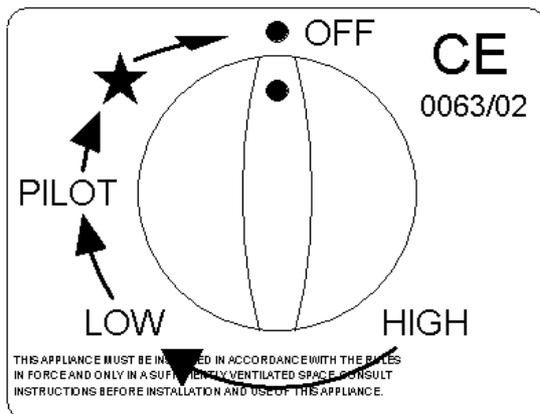

Fig 4f
Step 4. To extinguish the pilot, turn the control knob to the **OFF** position. (Fig 4f)